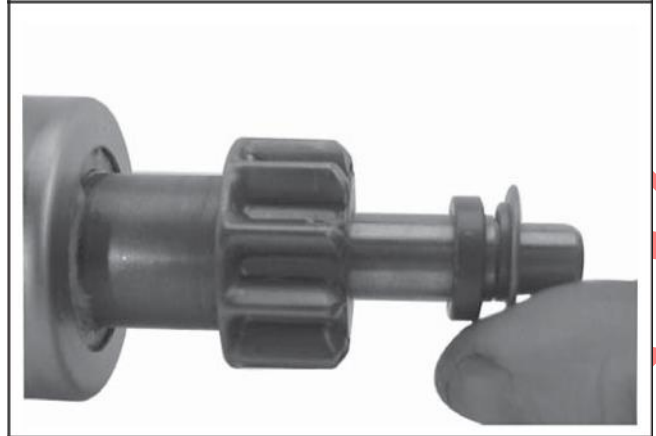

Figure 8-55. Installing Thrust Washer.
3. Install the offset thrust (stop) washer so the smaller "offset" of washer faces the retainer/ collar. See Figure 8-55.